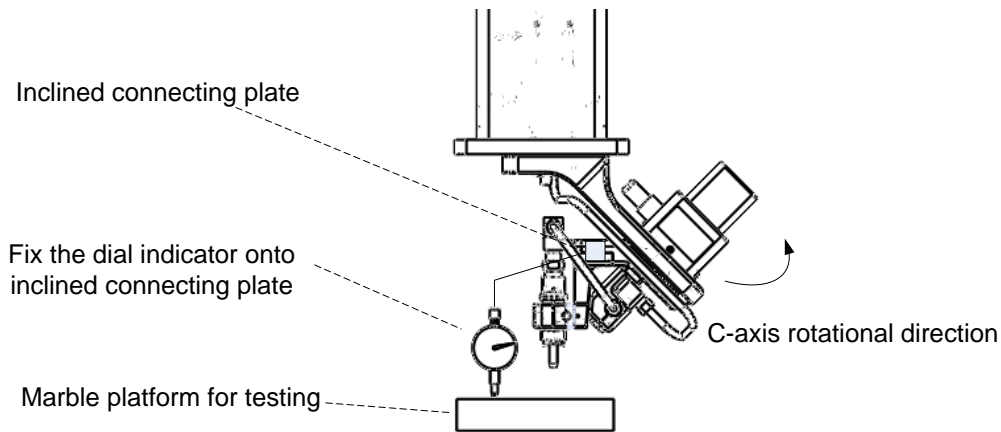
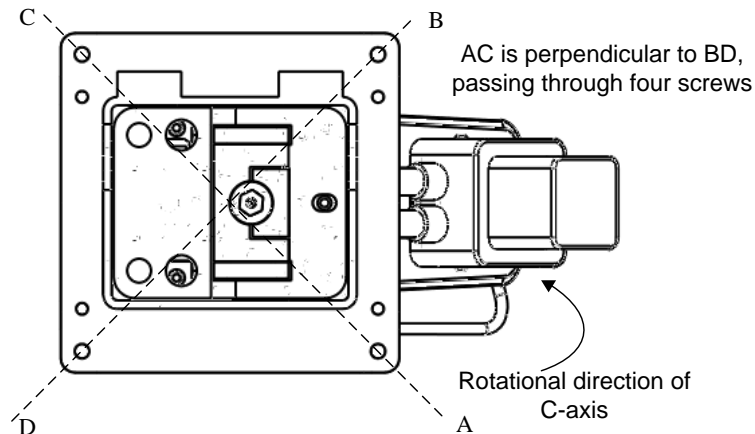

Fig. 2-9 Fix the dial indicator (method 2)
Fig. 2-10 Rotating position of C-axis
- 3) Remove the round dial indicator and fix it to the inclined connecting plate of cutting head, as shown in Fig. 2-9, making the indicator touch the marble platform. Rotate C-axis by 90 degrees each time, as rotating route A-D in Fig. 2-10. Observe the moving direction and value of the pointer, and adjust four screws on connecting plate at the same time, ensuring pointer of round dial indicator jumping within range of 0.02mm all the time.